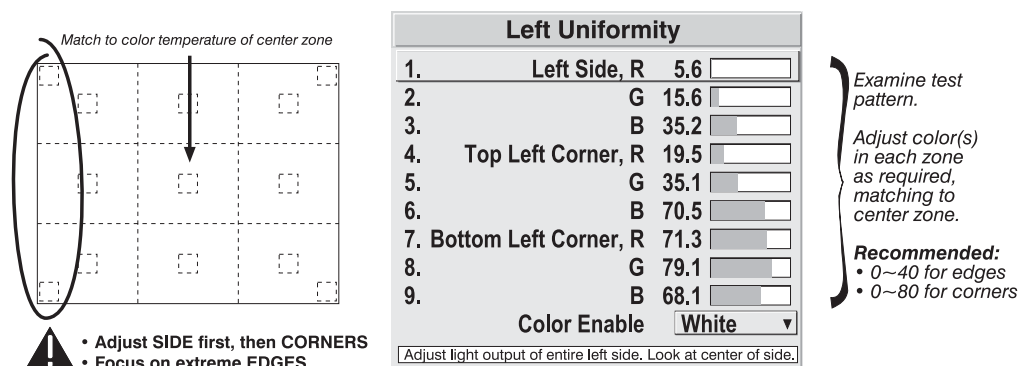

**Figure 3.34. Match Zones to Center Color Temperature**
- 2b) Return to the *Brightness Uniformity* menu. Beginning with the screen that exhibits the most obvious color shift(s), for each edge that exhibits a noticeably different color temperature from the center, select the corresponding *Uniformity* adjustment menu—*Left*, *Right*, *Top* or *Bottom*. For example, if any part of the left side is too blue, too red or too green, go to the *Left Uniformity* menu and adjust the colors (i.e., change their light output) until all portions of the left side closely match the center color temperature. Adjust an edge first (focusing on its center), then adjust its corners. See Figure 3.34.